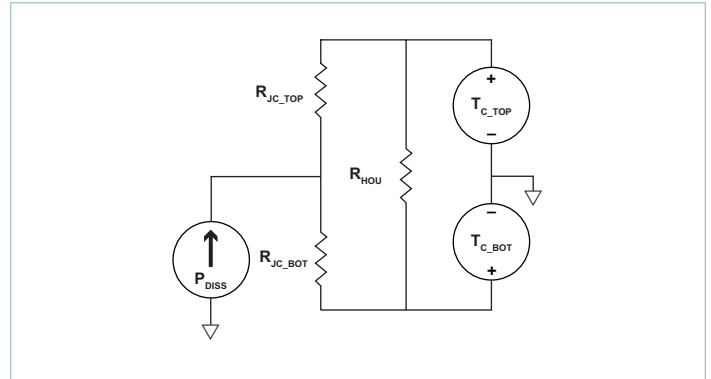
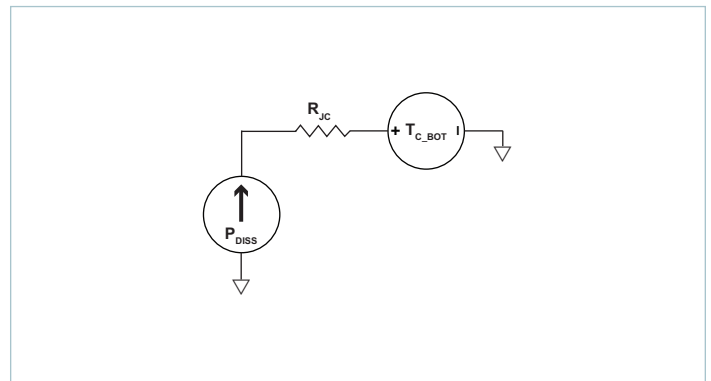

Figure 23 — Double sided cooling VIA thermal model
Figure 24 — Single-sided cooling VIA thermal model
top surface, the bottom surface or both. The extent to which these two surfaces are cooled is a key component for determining the maximum power that can be processed by a VIA, as can be seen from specified thermal operating area on Page 5. Since the VIA has a maximum internal temperature rating, it is necessary to estimate this internal temperature based on a system-level thermal solution. To this purpose, it is helpful to simplify the thermal solution into a roughly equivalent circuit where power dissipation is modeled as a current source, isothermal surface temperatures are represented as voltage sources and the thermal resistances are represented as resistors. Figure 23 shows the "thermal circuit" for the VIA module.
- Single side cooling: the model of Figure 23 can be simplified by calculating the parallel resistor network and using one simple thermal resistance number and the internal power dissipation curves; an example for bottom side cooling only is shown in Figure 24.